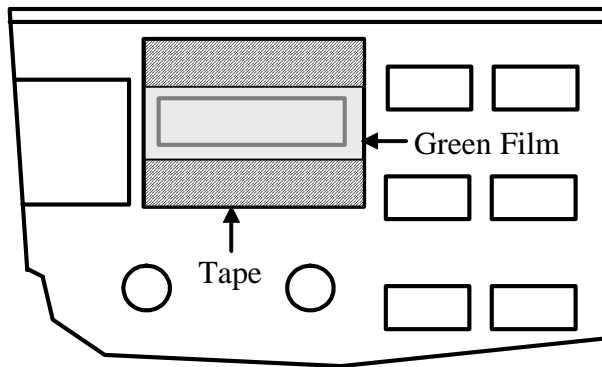

Figure 5-14
- Remove the brown paper backing from the other side of each piece of tape, then turn the filter/tape assembly adhesive-side down. Carefully center the green plastic filter over the *inside* of the bargraph LED hole (Figure 5-14).